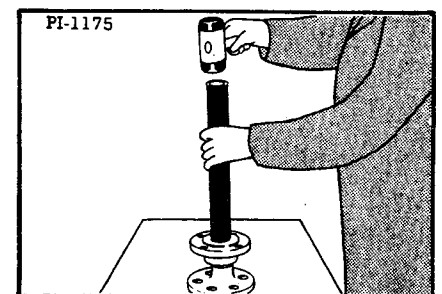

Fig. 77 Driving Hub & Bearing onto Shaft
4. Use a hollow tube slightly larger than the axle shaft to drive the hub and bearing assembly onto the shaft (Figure 77) or use a hydraulic press with an adapter tube.